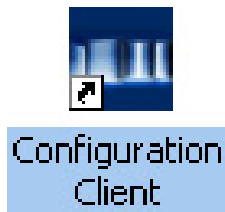
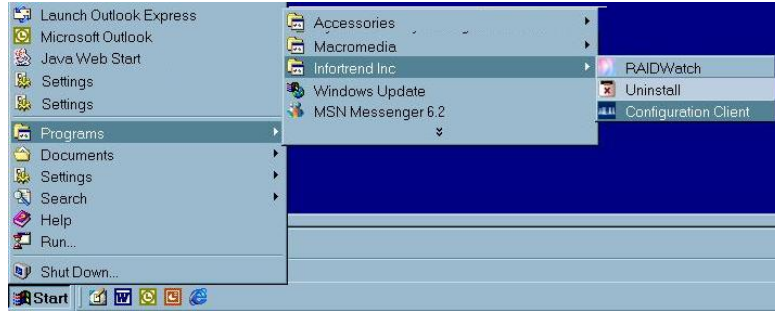

Figure 3-1: Configuration Client Shortcut on Windows Desktop
Figure 3-2: Configuration Client Shortcut on Windows Startup Menu
Step 2. If you are using a Windows operating environment, you may start the Configuration Client by double-clicking on the *Configuration Client* shortcut on your Windows Desktop. (See *Figure 3-1*) Otherwise, select *Start* on the bottom left of your screen, select the *Programs* menu, and then select *Infortrend Inc.* Under the *Infortrend Inc* directory, select the *Configuration Client* option shown in *Figure 3-2*.